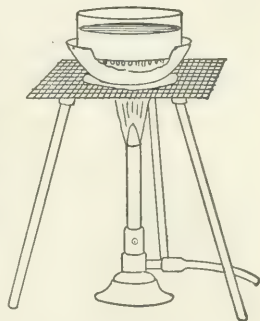

Fig. 75. Preparation of iodine.
**a. Preparation.** Pour into an evaporating dish about 3 cc. of water and add about twice that volume of concentrated sulphuric acid. Pulverize several crystals (about 2 g.) of potassium iodide with twice as much manganese dioxide and add the mixture to the acid. Set the evaporating dish on the asbestos gauze supported on the tripod and place a crystallizing dish half full of cold water upon it in such a way that the iodine vapor may be condensed on the bottom of the cool dish (Fig. 75).